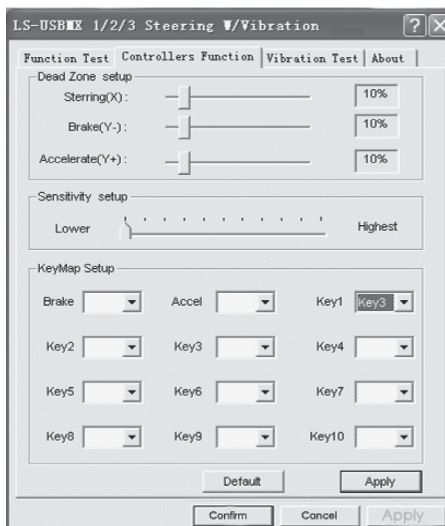

Fig. 7
- Choose «Controllers Function» to set axes and keys (Fig. 7).
- Dead Zone Setup: controller will not respond to a slight touch of acceleration pedal (Accelerate Y+), or brake pedal (Brake Y-), or turns of the wheel (Steering X), therefore necessary adjustments should be made by cursors (Fig. 7);
- Sensitivity Setup: the higher sensitivity is, the swifter and more efficient response of controller to pressing of pedals and turns of the wheel will be, therefore if it is necessary adjustments within Lower to Higher range should be made by cursors (Fig. 7);
- KeyMap Setup reprograms functional keys: there should be chosen new necessary assignment against the key designation (Fig. 7);